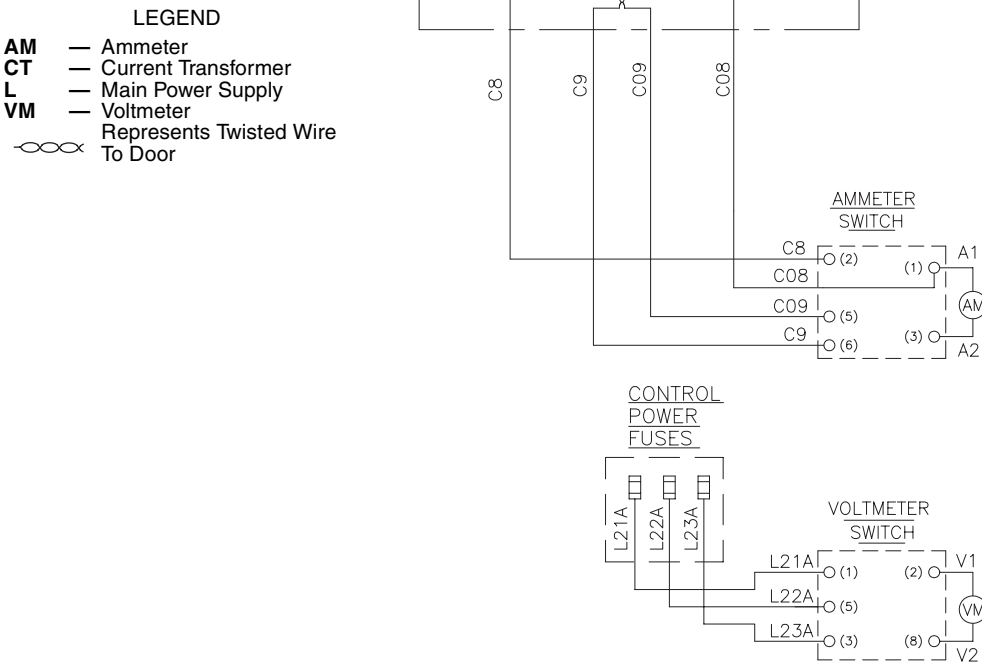

Fig. 52 — Separate Metering Option
3. For metering information refer to Fig. 52.